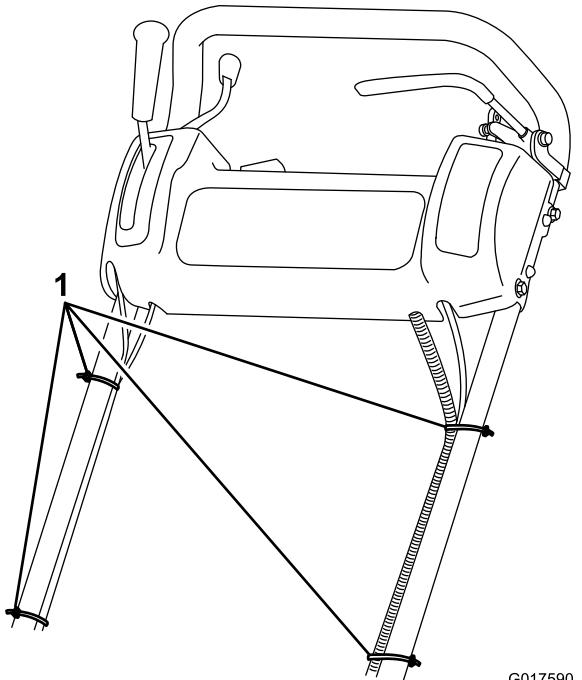

Figure 5
8. Secure the cables and wire harness to the handle with cable ties (Figure 5).